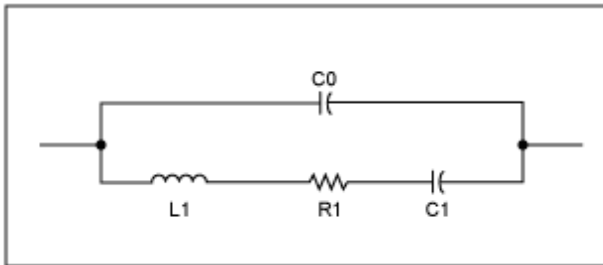

Figure 3. Crystal equivalent circuit.
**Figure 3** shows the equivalent circuit for a crystal. Near the resonant frequency the circuit consists of a series circuit including motional inductance  $L_1$ , motional resistance  $R_1$ , and motional capacitance  $C_1$ . The parallel component  $C_0$  is the shunt capacitance of the crystal.
4. Temperature. The further the operating temperature is from the crystal turnover temperature, the slower the crystal oscillates. See Figures 3 and 4.